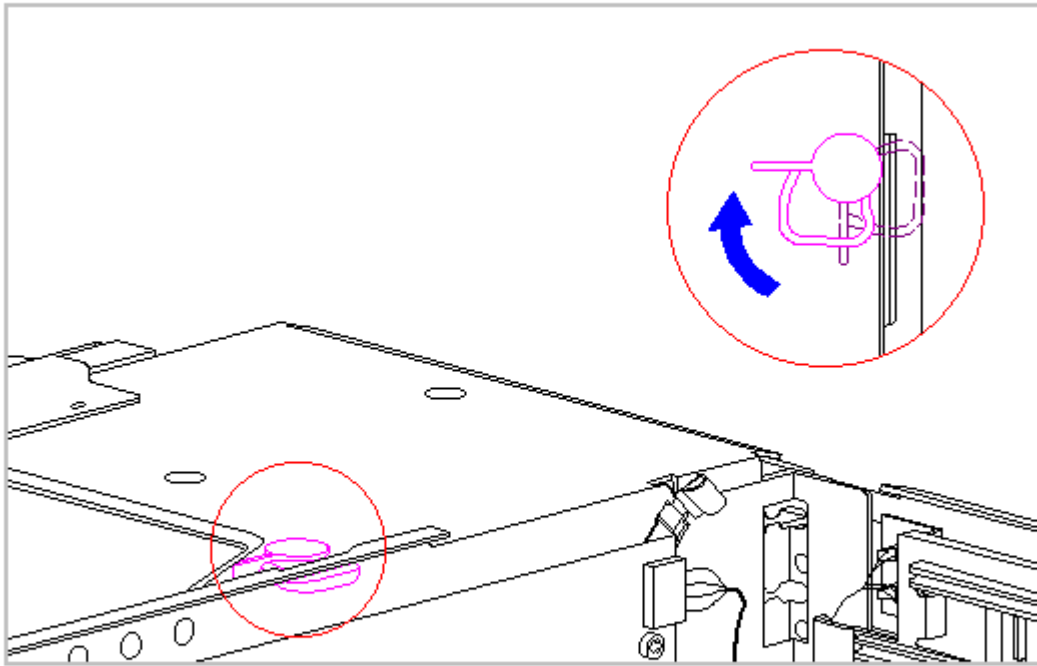

Figure 5-12. Releasing the Drive Cage
5. Release the drive cage lock (plastic) on the top of the drive cage by rotating it clockwise as shown in the top view in the inset in Figure 5-12.
3. Release the drive cage lock (plastic) on the top of the drive cage by rotating it clockwise (Figure 5-12).